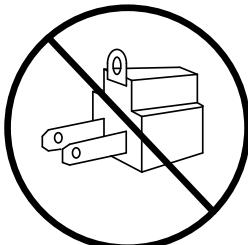

Figure 2
- Do not use an adapter. (See Figure 2).